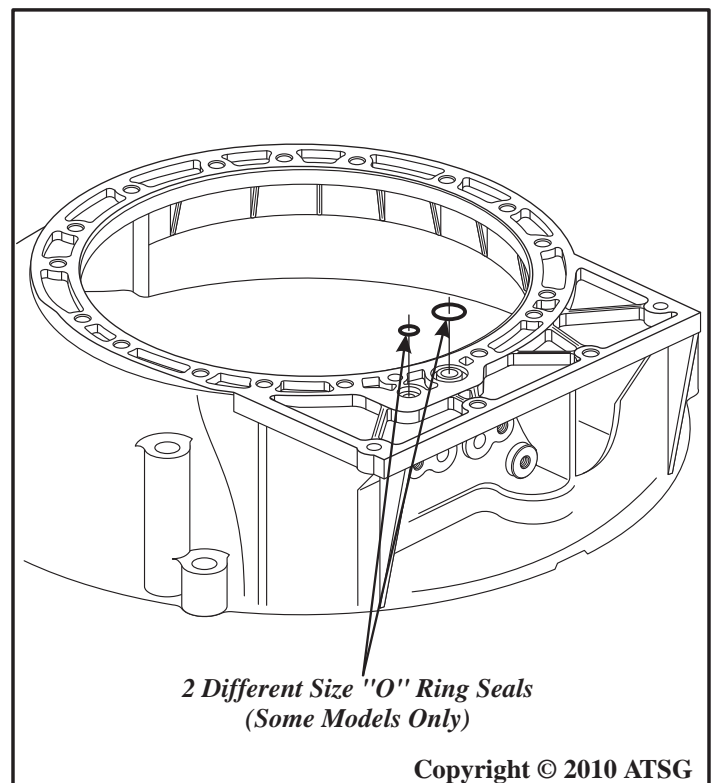

Figure 242
81. Some models of the "09D" family route line pressure through the converter housing and will require two "O" ring seals on the back side of converter housing, as shown in Figure 242.